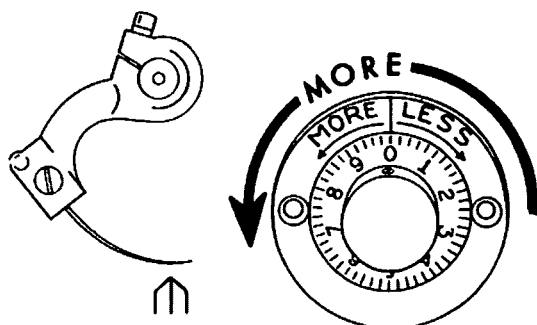

FIG. 4
5. If rib is away from needle (Fig. 4), turn dial toward "**MORE**" until rib just touches needle.